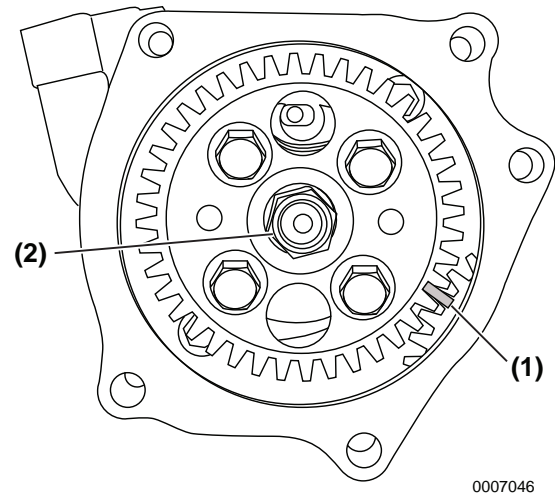

Figure 7-9
13. To aid in assembly, make alignment marks **(Figure 7-9, (1))** on the pump drive gear and idler gear. *NOTICE: Mark the gears with something that will not rub off or be affected by oil and become illegible. If the gears are not marked or are illegible during installation, the gear case cover must be removed to properly time the injection pump gear. NOTICE: After marking the position of the pump drive gear, do not rotate the engine crankshaft. Rotating the crankshaft will cause the fuel injection pump to become misaligned.*
14. Hold the gear train stationary using a wrench on the crankshaft pulley bolt. Remove the fuel injection pump drive gear retaining nut and washer **(Figure 7-9, (2))**. *NOTICE: Do not loosen or remove the four bolts retaining the fuel injection pump drive gear to the fuel injection pump hub. Do not disassemble the fuel injection pump drive gear from the hub.*